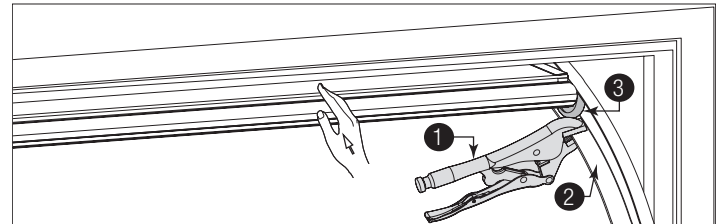
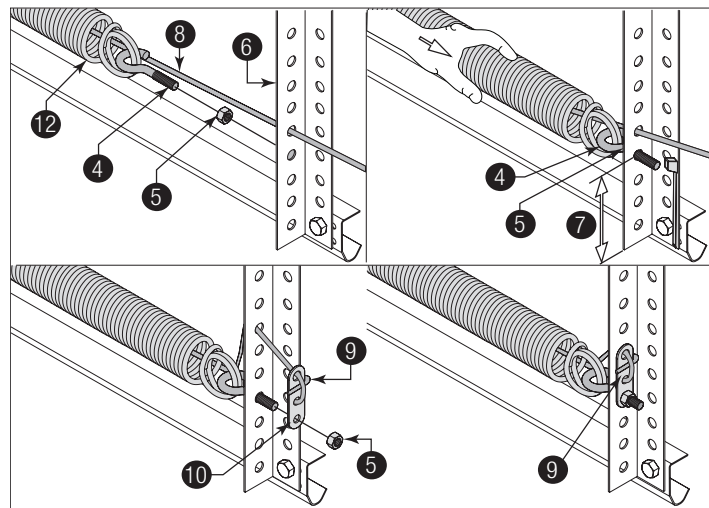

Figure 42, Outside Of The Door In The Open Position
Figure 45, Left Side Shown
See Figure 42 through Figure 45 for the following steps.
**IMPORTANT:** Whenever adjusting extension spring length for door balance, always open the door to the fully open position and return the locking pliers, as shown in Figure 42 to the horizontal tracks below the bottom track rollers.